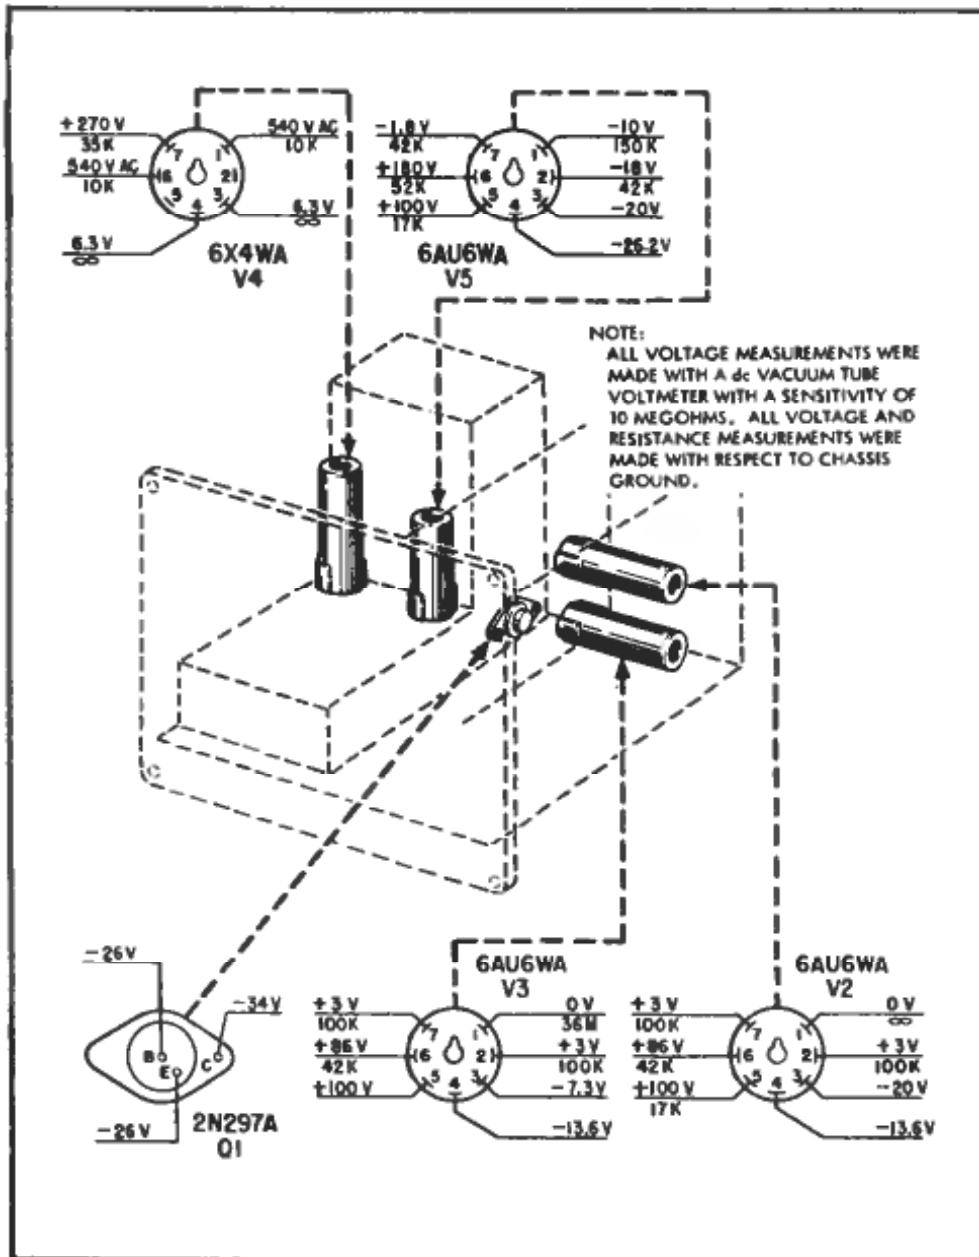

Figure 5-3. Voltage and Resistance Measurements and Tube Location Diagram
(3) If the ohmmeter or milliammeter functions do not operate properly, check fuses F2 and F1 (refer to paragraph 3-5b(2) for fuse replacement procedures).
(4) Tubes that are thought to be faulty should be tested. Tube substitution - replacing suspected faulty tubes with known good ones - is a method of remedying many troubles. Tapping suspected tubes with the finger or jarring the unit may disclose intermittent trouble.
b. ELECTRICAL INSPECTION. - If the visual inspection fails to locate the fault, an electrical inspection must be made. The electrode voltage of all tubes should be checked at the tube sockets, and the measured values compared with those given in figure 5-3. The operating voltages of all control circuits should also be determined, and then compared with those shown in figure 5-9 (see test points ① ② ③ and ④ ⑤ ). Voltages differing greatly from specified values indicate a fault in the circuit under test. When incorrect voltages are found, resistance checks should be made in order to determine the cause. The resistance values are also given on figure 5-3.
(4) All components within multimeter are now accessible for repair or replacement purposes.
c. FUNCTIONAL SECTION TROUBLE-SHOOTING CHART. - The functional trouble-shooting chart (refer to table 5-2) describes the checks that should be made to isolate the particular part at fault. Follow the instructions given in the table. Note that the second column of the table lists the test point symbols shown in figure 5-9. Refer to figure 5-3 for tube pin voltage and resistance measurements and for the tube location diagram.